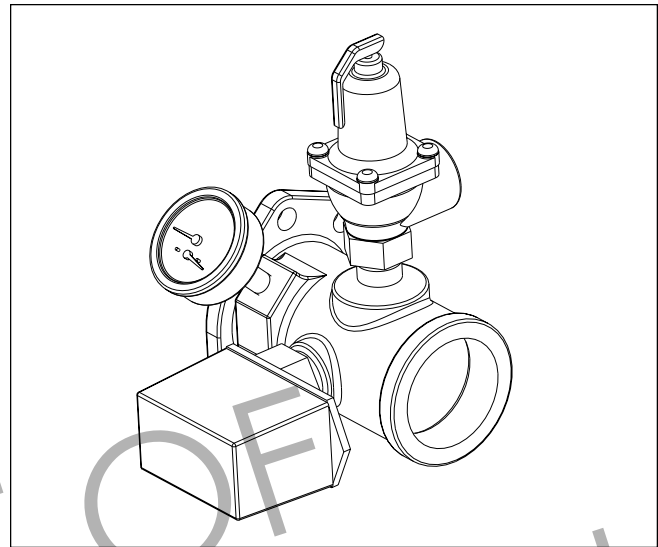

Figure 7. Pressure Relief Valve Location.
2. The pressure relief valve installed in the tapped opening provided in the outlet header (see Figure 7), must be piped, but not fastened, to a drain or floor sink. The drain pipe must be the same size as the valve outlet and must pitch downward from the valve. Pay special attention to relief valve settings in installations where the heater is located on the ground floor of a tall building, or where the operating temperature of the heater is above 210°F (99°C). In both instances, the static pressure of the system is elevated and could cause the relief valve to leak and bring considerable raw water into the system.